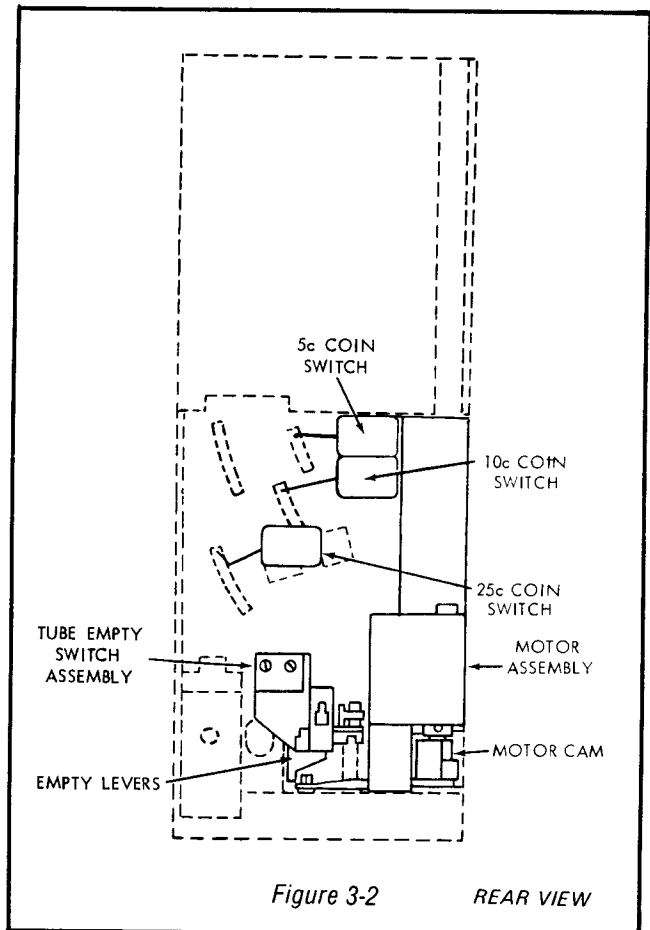

Figure 3-2
(Figure 3-2)**
J. DC MOTOR AND GEAR CASE ASSEMBLY (Figure 3-2)